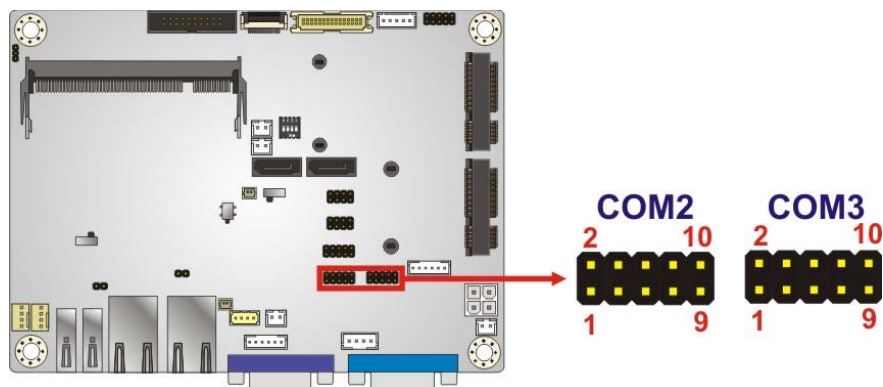

Figure 3-19: RS-232 Serial Port Connectors Locations
- CN Location:** See Figure 3-19